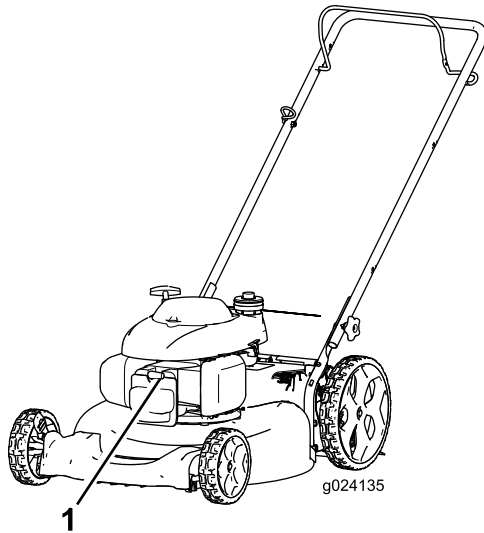

Figure 15
2. Disconnect the spark-plug wire from the spark plug (Figure 15) before performing any maintenance procedure.